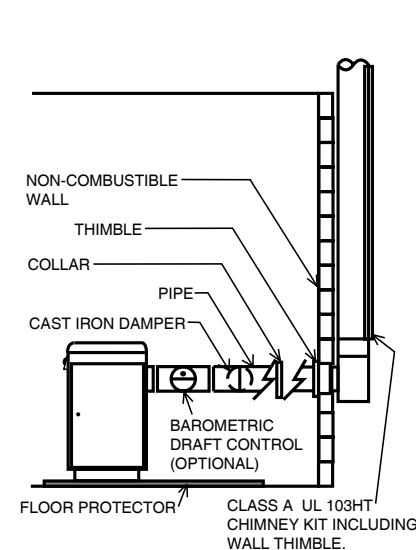

Fig. 5
1. The chimney connection should be as air tight as possible. The heater must have its own chimney. Do not connect this unit to a chimney flue, serving another appliance. If there is no chimney near where you wish to place the heater, you can use a UL 103HT Residential Type and Building Heating Appliance Chimney (Fig. 5 & 6).